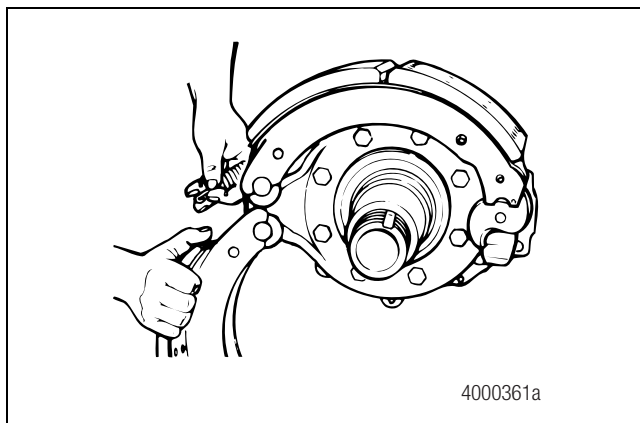

Figure 5.19
2. Place the upper brake shoe into position on the top anchor pin. Hold the lower brake shoe on the bottom anchor pin. Install two new brake shoe retaining springs. Figure 5.19.